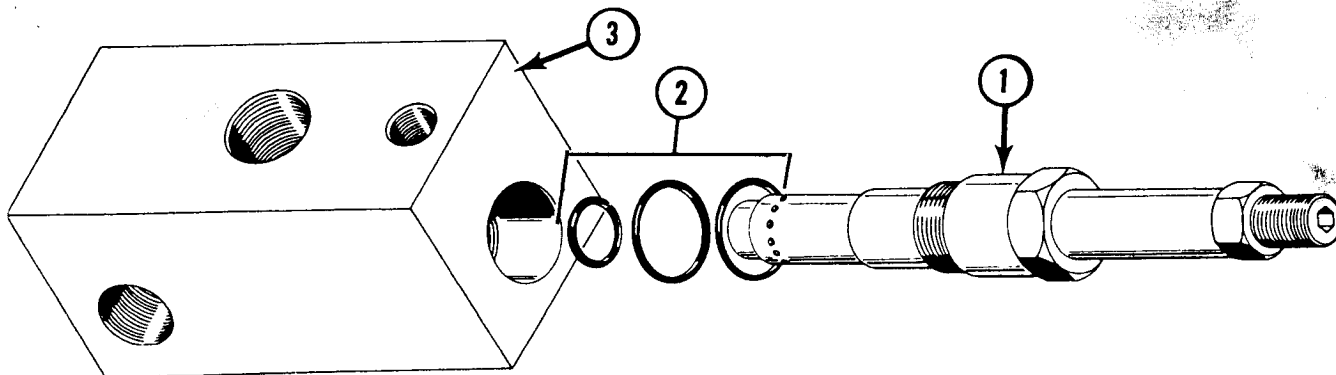

FIGURE 34. RELIEF VALVE REMOVAL
Refer to Figure 34. Remove valve assembly (1) from valve body (3). Remove the three "O" rings (2). Install new "O" rings on valve assembly and reinstall valve assembly into valve body. Removal of relief